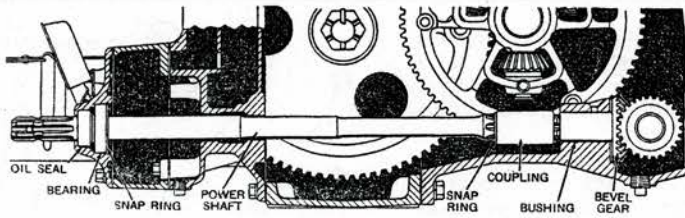

Fig 35A Cutaway view of Model 60 transmission-driven power shaft. Model 50 is similar
**MODELS 50, 60**—The front of the power shaft, Fig. 35A, is splined to a bevel gear located in the bottom of the transmission case. The bevel gear is driven by a drive shaft and bevel pinion, the shaft of which lies parallel to the transmission countershaft. A sliding gear on the drive shaft and bevel pinion can be engaged with the countershaft idler gear by a shifter mechanism. The power shaft receives its power from the countershaft idler gear.